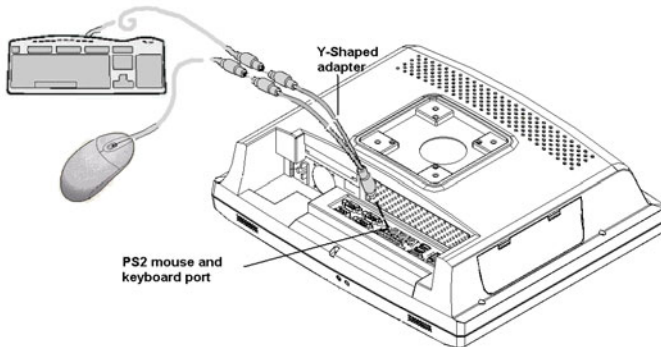

Figure 2.12: Connecting the Mouse and Keyboard
1. Connect the Y-shaped adapter to the PS/2 mouse and keyboard port on the I/O section of POC-154. (See Figure 2-12).
2. Connect the PS/2 mouse and keyboard to the Y-shaped adapter. (See Figure 2-12).